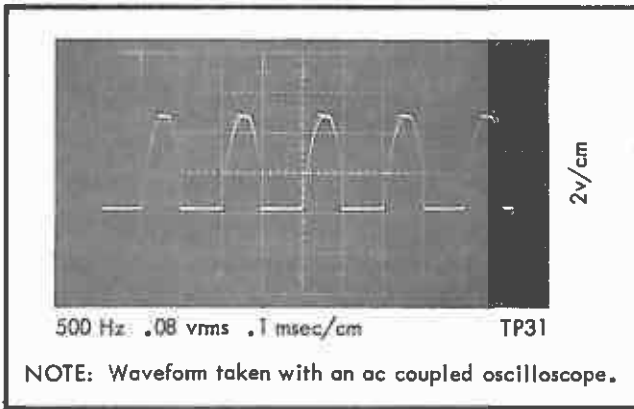

Figure 4-18. CARRIER AMPLIFIER WAVEFORM
- i. Set the ratio transformer output to provide an unsaturated 5 kHz carrier signal on the oscilloscope CRT. Figure 4-18 illustrates a typical unsaturated in-phase carrier signal.
- k. Retune the slugs of T303 and L301 to obtain the in-phase carrier signal illustrated in Figure 4-18.